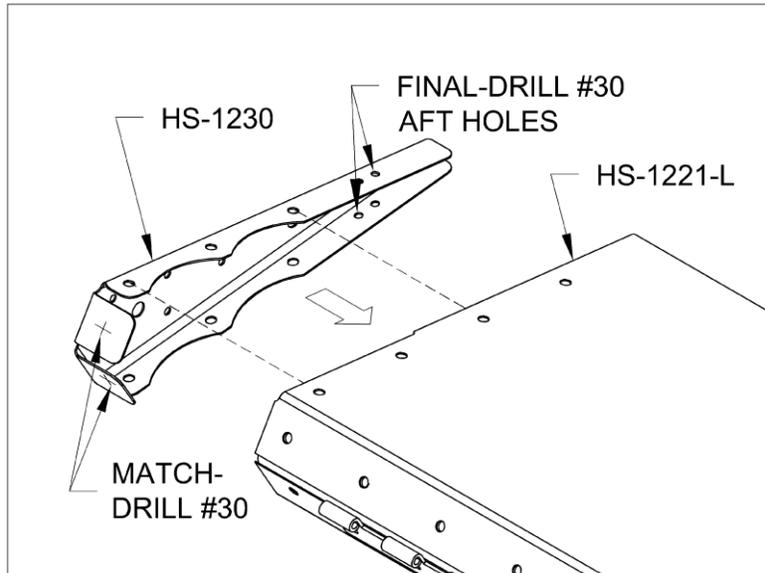

FIGURE 3: MATCH-DRILL RIB
Step 7: Cleco the HS-1230 Inbd Rib into the AST as shown in Figure 3.
Step 8: Match-Drill #30 the HS-1230 Inbd Rib flanges at the spar using the holes in the skin/spar as guides. See Figure 3.
Final-Drill #30 the aft holes in the rib. Remove the rib and deburr. Mark the rib a "LEFT." See Figure 3.